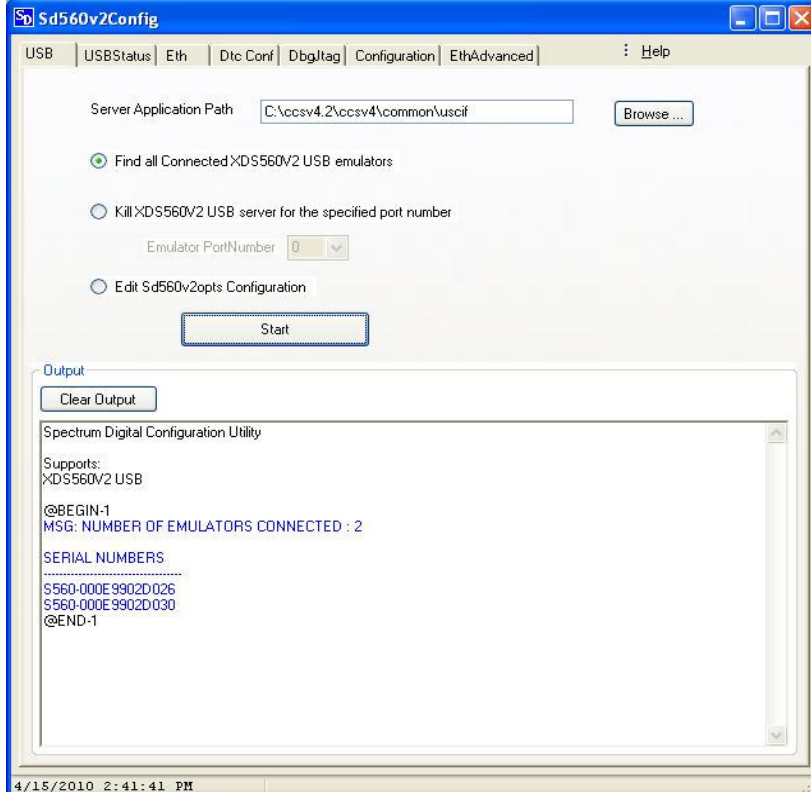

FIGURE 3: Sd560v2Config utility to find all Connected XDS560V2 STM USB emulators
- Output showing a successful connection to the XDS560v2 can be seen in Fig. 3, below.